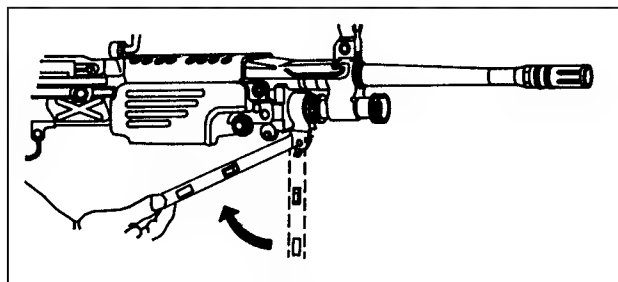

Figure 1-36. Folding of bipod under the handguard.
- c. Before transporting the weapon, the gunner folds the bipod legs. To place the legs in the closed position, the gunner holds them together; he pulls them back under the handguard; he then releases them so that the hooks on the legs grip the handguard. The bipod can be folded only when the legs are in the closed position (Figure 1-36).